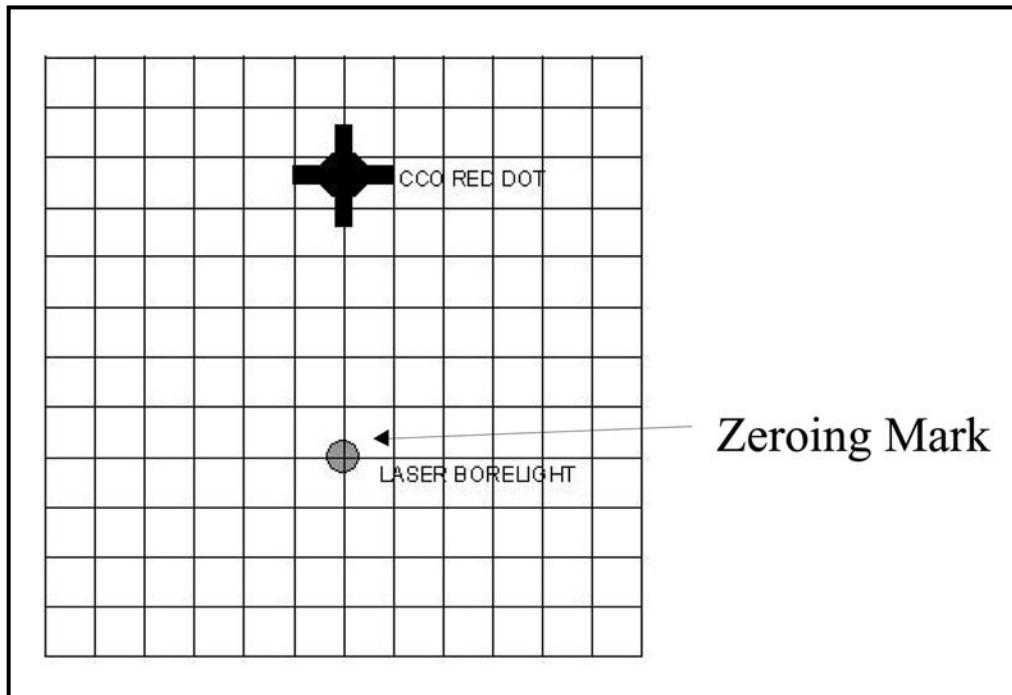

Figure 8-2. Example of a zeroing mark.
- (1) Attach the 5.56-mm mandrel to the borelight.
- (2) Insert the mandrel into the muzzle of the weapon. The borelight is seated properly when the mandrel cannot be moved any further into the muzzle and the mandrel spins freely. Stabilize the weapon so it will not move.
- (3) Measure 10 meters with the 10-meter cord that comes with the borelight or pace off eleven paces.
- (4) The zeroing mark is a small dot drawn on a piece of paper, tree bark, or the borelight reference point on the 10-meter boresight target (Figure 8-2, page 8-4).